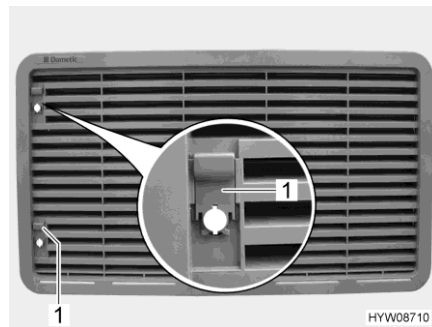

Fig. 147 Refrigerator ventilation grill
- Push sliding trap (Fig. 147, 1) upward.